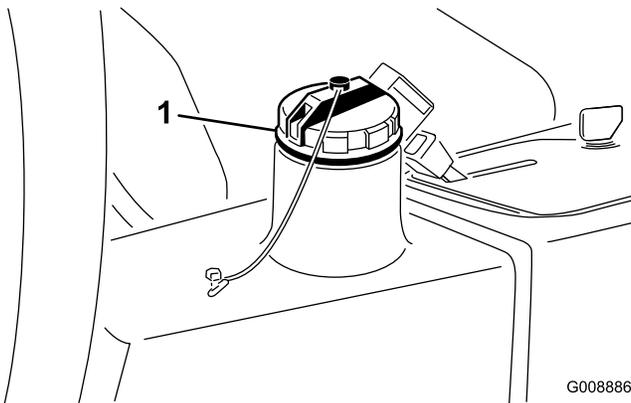

Figure 58
3. Fill the reservoir (Figure 58) with approximately 6 U.S. gallons (22.7 liters) of hydraulic fluid; refer to Checking the Hydraulic System.